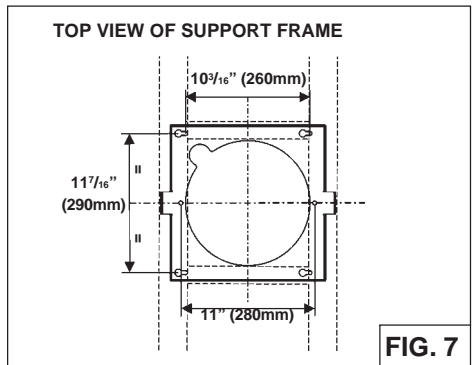

FIG. 7
4. Mount the four 6x70mm screws to ceiling in the location shown in figure 7. Allow 1/4" clearance between screw head and ceiling (screws will be tightened later). Make sure the screws are driven into the center of joists and framing for maximum strength.